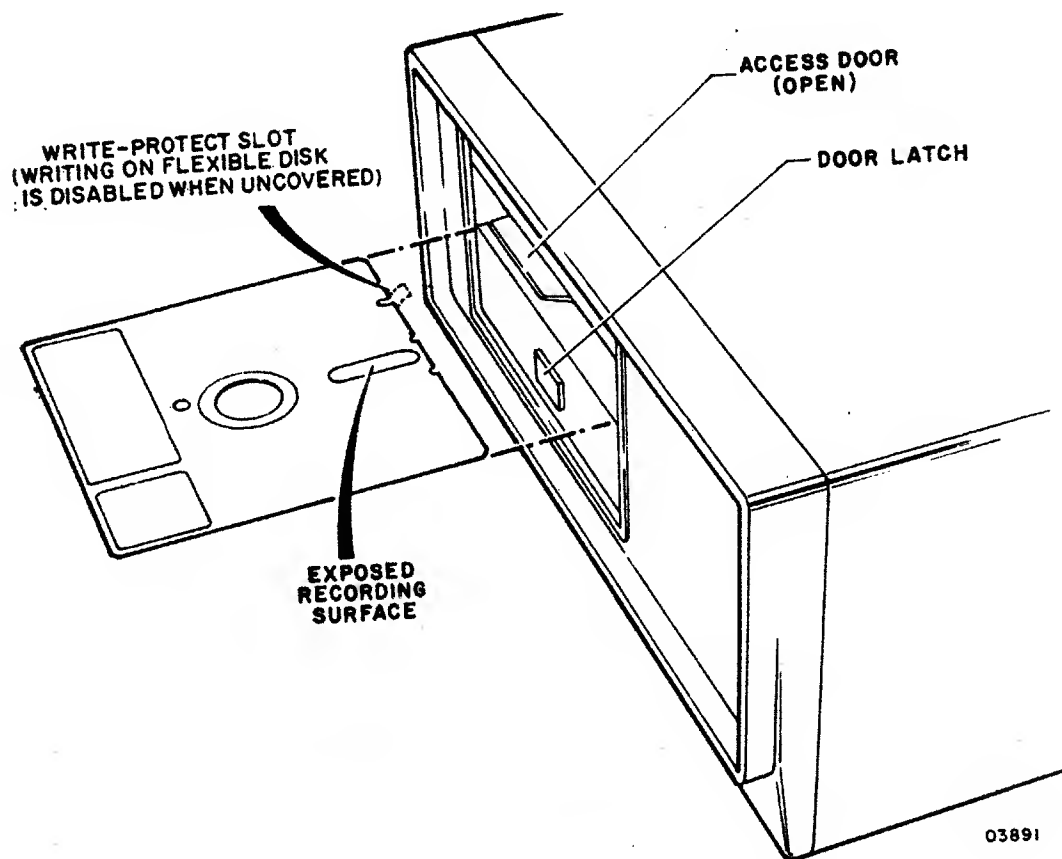

Figure 6B-2. Disk Installation/Removal
2. Press door latch to open access door (figure 6B-2).